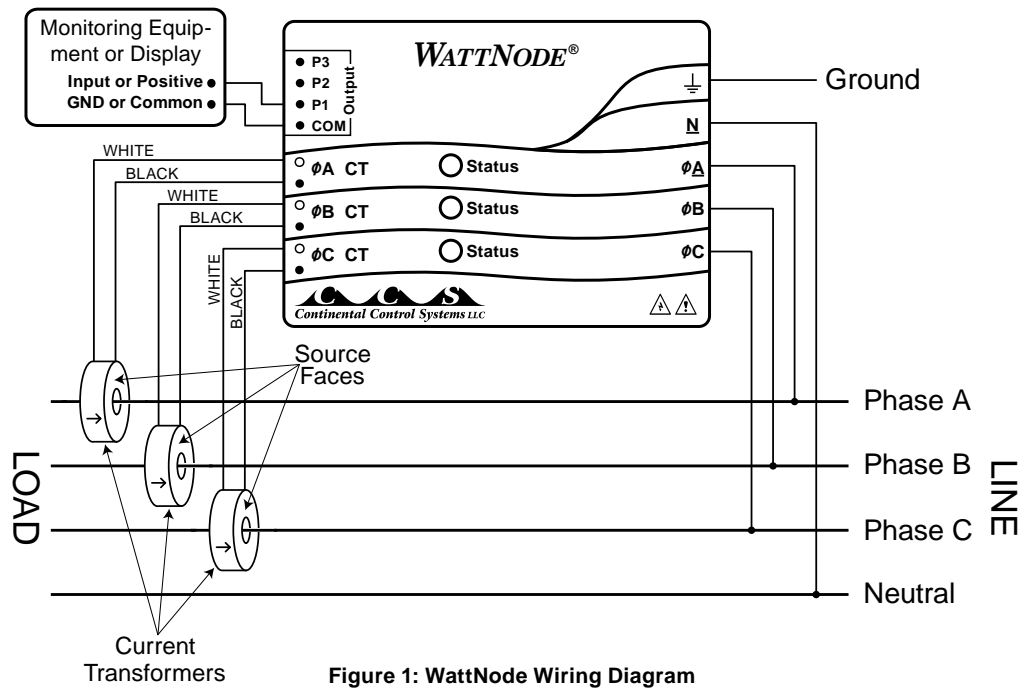

Figure 1: WattNode Wiring Diagram
**Figure 1** above shows the connections for a three phase wye circuit. Other circuit types are similar, but with fewer connections (no neutral for delta, no phase C for 1 Phase 3 Wire 120V/240V). See the "Installation and Operation Manual" for more diagrams.
To connect CTs, pass the wire to be measured through the CT and connect the CT to the WattNode. **Always remove power before disconnecting any live wires.** Put the line wires through the CTs as shown in **Figure 1** above.
**Always disconnect power** before connecting the voltage lines to the WattNode. Connect each WattNode line voltage to the appropriate phase; also connect ground and neutral (if applicable). The neutral connection is not required on model numbers starting with WNB-3D. See **Figure 1** for details.
The screw terminals handle wire up to 12 AWG. Prepare the voltage wires by stripping the wires to expose 1/4" (6 mm) of bare wire. Connect each voltage line to the green terminal block as shown in **Figure 1** above. Verify that the line voltage phases match the CT phases. After the voltage lines have been connected, make sure both terminal blocks are securely installed on the WattNode.
The WattNode pulse outputs may be connected to most devices that expect a contact closure or relay input. See **Figure 1** above for a basic connection. See the “Installation and Operation Manual” for more complex connection information.